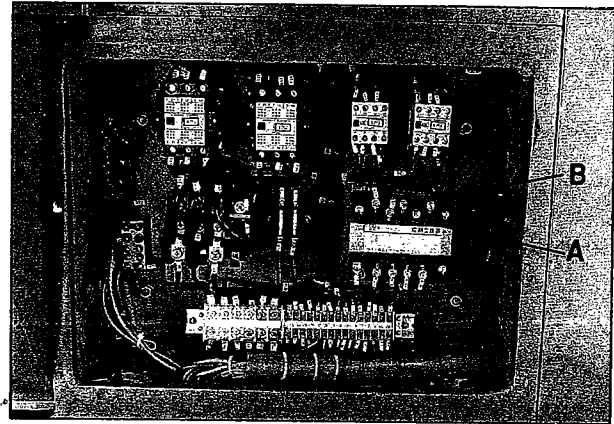

Fig. 10
- **Transformer** - open electrical panel on rear of machine on the headstock side. Switch wire from 230V terminal (A, Fig. 10) to 460V terminal (B, Fig. 10).